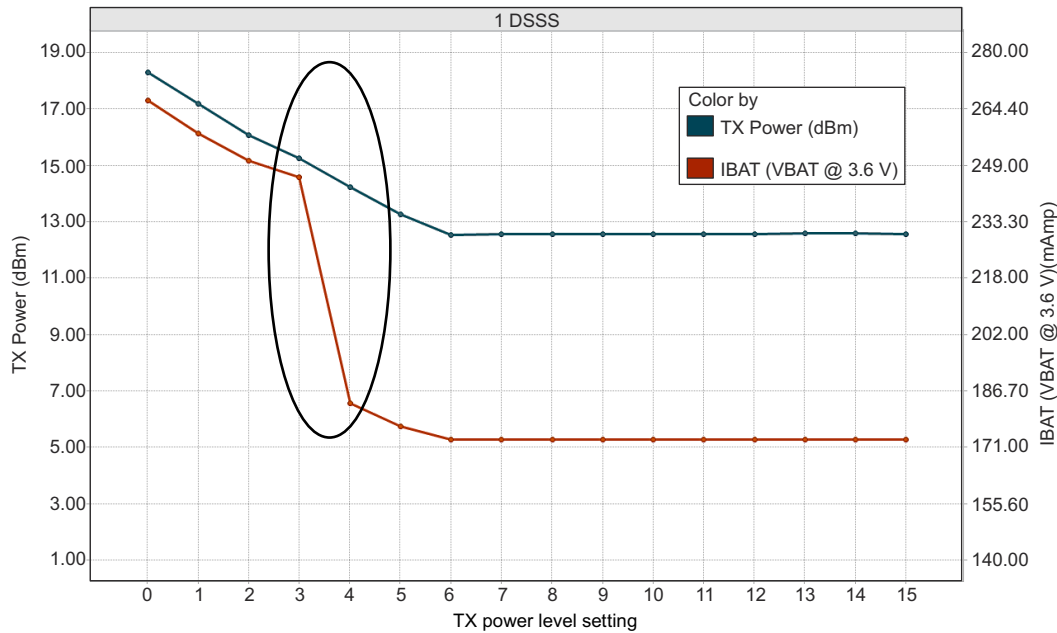
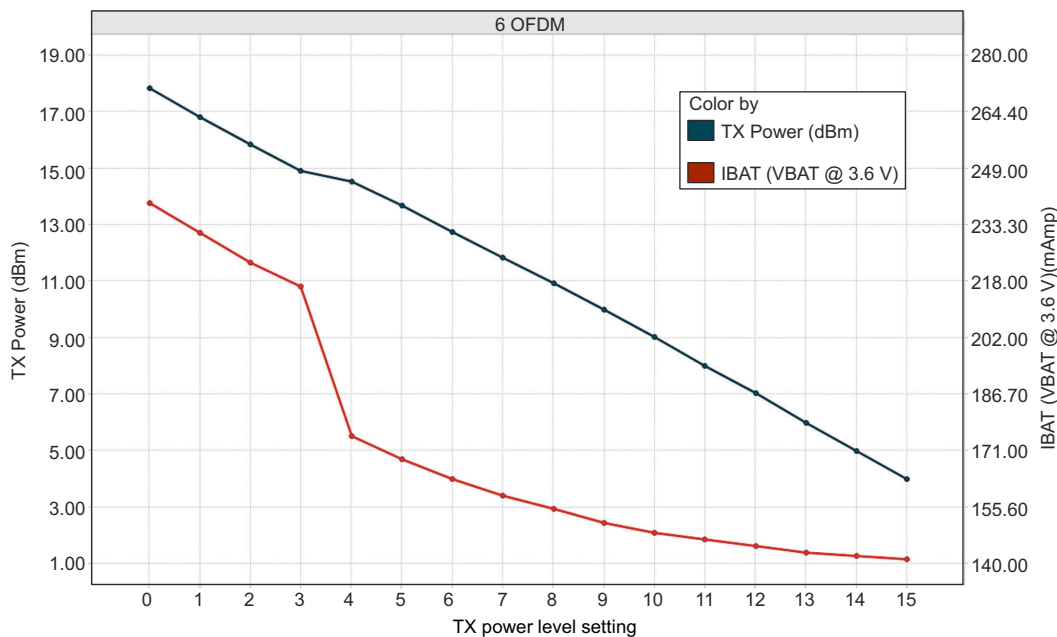
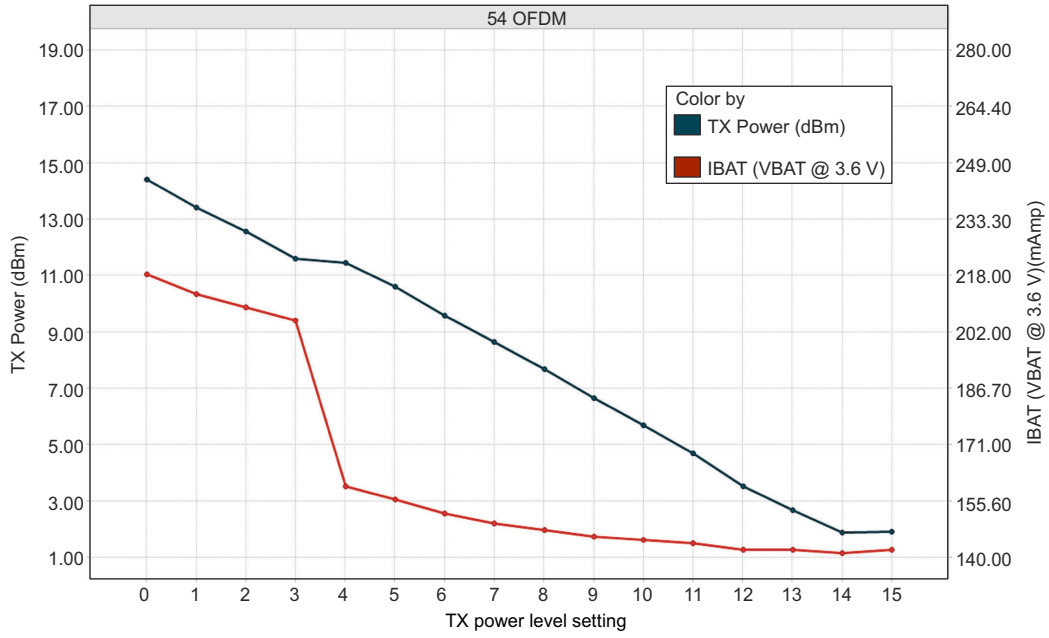

Figure 8-1. TX Power and IBAT vs TX Power Level Settings (1 DSSS)
Figure 8-2. TX Power and IBAT vs TX Power Level Settings (6 OFDM)
Figure 8-3. TX Power and IBAT vs TX Power Level Settings (54 OFDM)
- (1) TX power level = 0 implies maximum power (see Figure 8-1, Figure 8-2, and Figure 8-3). TX power level = 4 implies output power backed off approximately 4 dB.
- (2) CC3220MODx and CC3220MODAx are constant, power-source systems. The active current numbers scale based on the V_{BAT} voltage supplied.
- (3) DTIM = 1
- (4) The LPDS number of reported is with retention of 256KB of MCU SRAM. The CC3220MODx and CC3220MODAx modules can be configured to retain 0KB, 64KB, 128KB, 192KB, or 256KB of SRAM in LPDS. Each 64-KB block of MCU retained SRAM increases LPDS current by 4 μA.
- (5) The complete calibration can take up to 17 mJ of energy from the battery over a time of 24 ms. In default mode, calibration is performed sparingly, and typically occurs when re-enabling the NWP and when the temperature has changed by more than 20°C. There are two additional calibration modes that may be used to reduced or completely eliminate the calibration event. For further details, see CC3x20 SimpleLink™ Wi-Fi® and Internet of Things Network Processor Programmer's Guide.
- (6) The RX current is measured with a 1-Mbps throughput rate.
- (3) The RX current is measured with a 1-Mbps throughput rate.
- (4) DTIM = 1
- (5) The LPDS number of reported is with retention of 256KB of MCU SRAM. The CC3220MODx and CC3220MODAx modules can be configured to retain 0KB, 64KB, 128KB, 192KB, or 256KB of SRAM in LPDS. Each 64-KB block of MCU retained SRAM increases LPDS current by 4 μA.
Figure 8-1, Figure 8-2, and Figure 8-3 show TX Power and IBAT versus TX power level settings for the CC3220MODS module at modulations of 1 DSSS, 6 OFDM, and 54 OFDM, respectively. For the CC3220MODSF module, the IBAT current has an increase of approximately 10 mA to 15 mA depending on the transmitted rate. The TX power level will remain the same.
In Figure 8-1, the area enclosed in the circle represents a significant reduction in current during transition from TX power level 3 to level 4. In the case of lower range requirements (14-dBm output power), TI recommends using TX power level 4 to reduce the current.